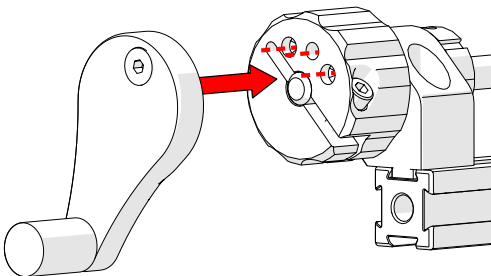

Fig. 145 - Align posts
1. Align the dowels of the crank handle with the holes of the main knob (Fig. 145).